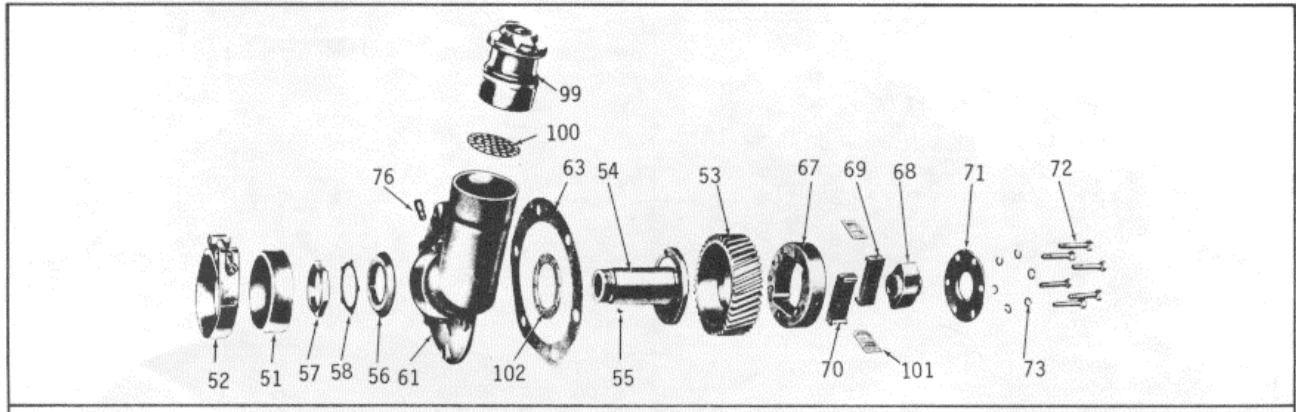

Fig. 5
- (1) Secure the blower drive gear and support assembly in a vise with soft jaws.
- (2) Take out the drive coupling bolts (72) and remove the retainer (71) and coupling support (67), see Fig. 5.
- (3) Remove the drive gear hub nut (57), lockwasher (58), lock ball (55) and thrust washer (56) and withdraw the blower drive gear hub.
- (2) Place a new gasket (63) on the mounting face of the hub support (Fig. 5).
- (3) Attach the blower drive gear and support assembly to the cylinder block rear end plate with the two 3/8"-24 x 7/8 bolts.
- (5) Install the blower as outlined in SM6-5-44.0 and secure the seal (51) and clamp (52) shown in Fig. 5.